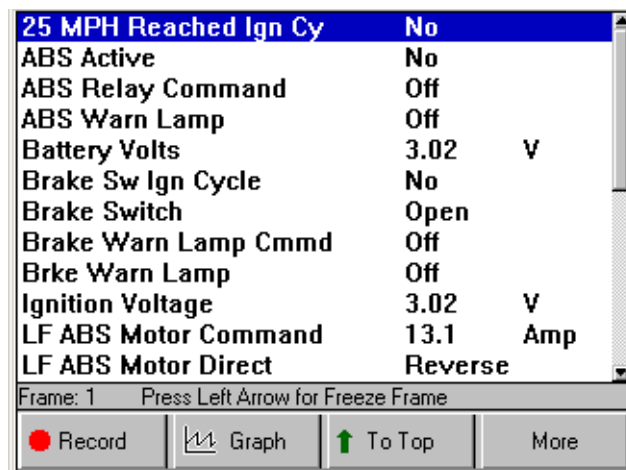

Figure 3.18: Datastream Screen - Sort by Alphabet Function
- 4 From the Sort Options screen (Figure 3.18), select one of the following: